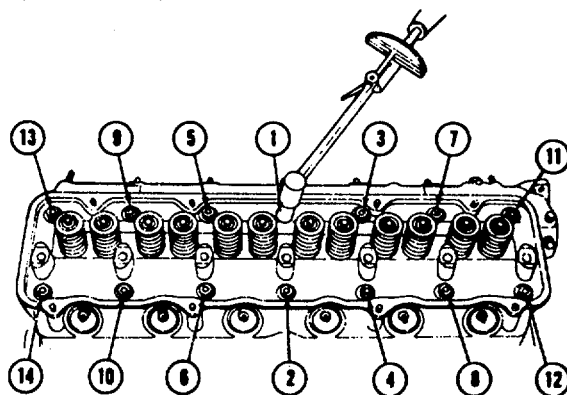

Figure 5-6. Cylinder Head Bolt Tightening Sequence
5. Coat the new head gasket with a suitable sealer. Install gasket and cylinder head assembly with cylinder head bolts. Starting at top center, tighten all cylinder head bolts to 65 pound-feet in sequence (see figure 5-6). Repeat the procedure, retightening all cylinder head bolts to specified torque.